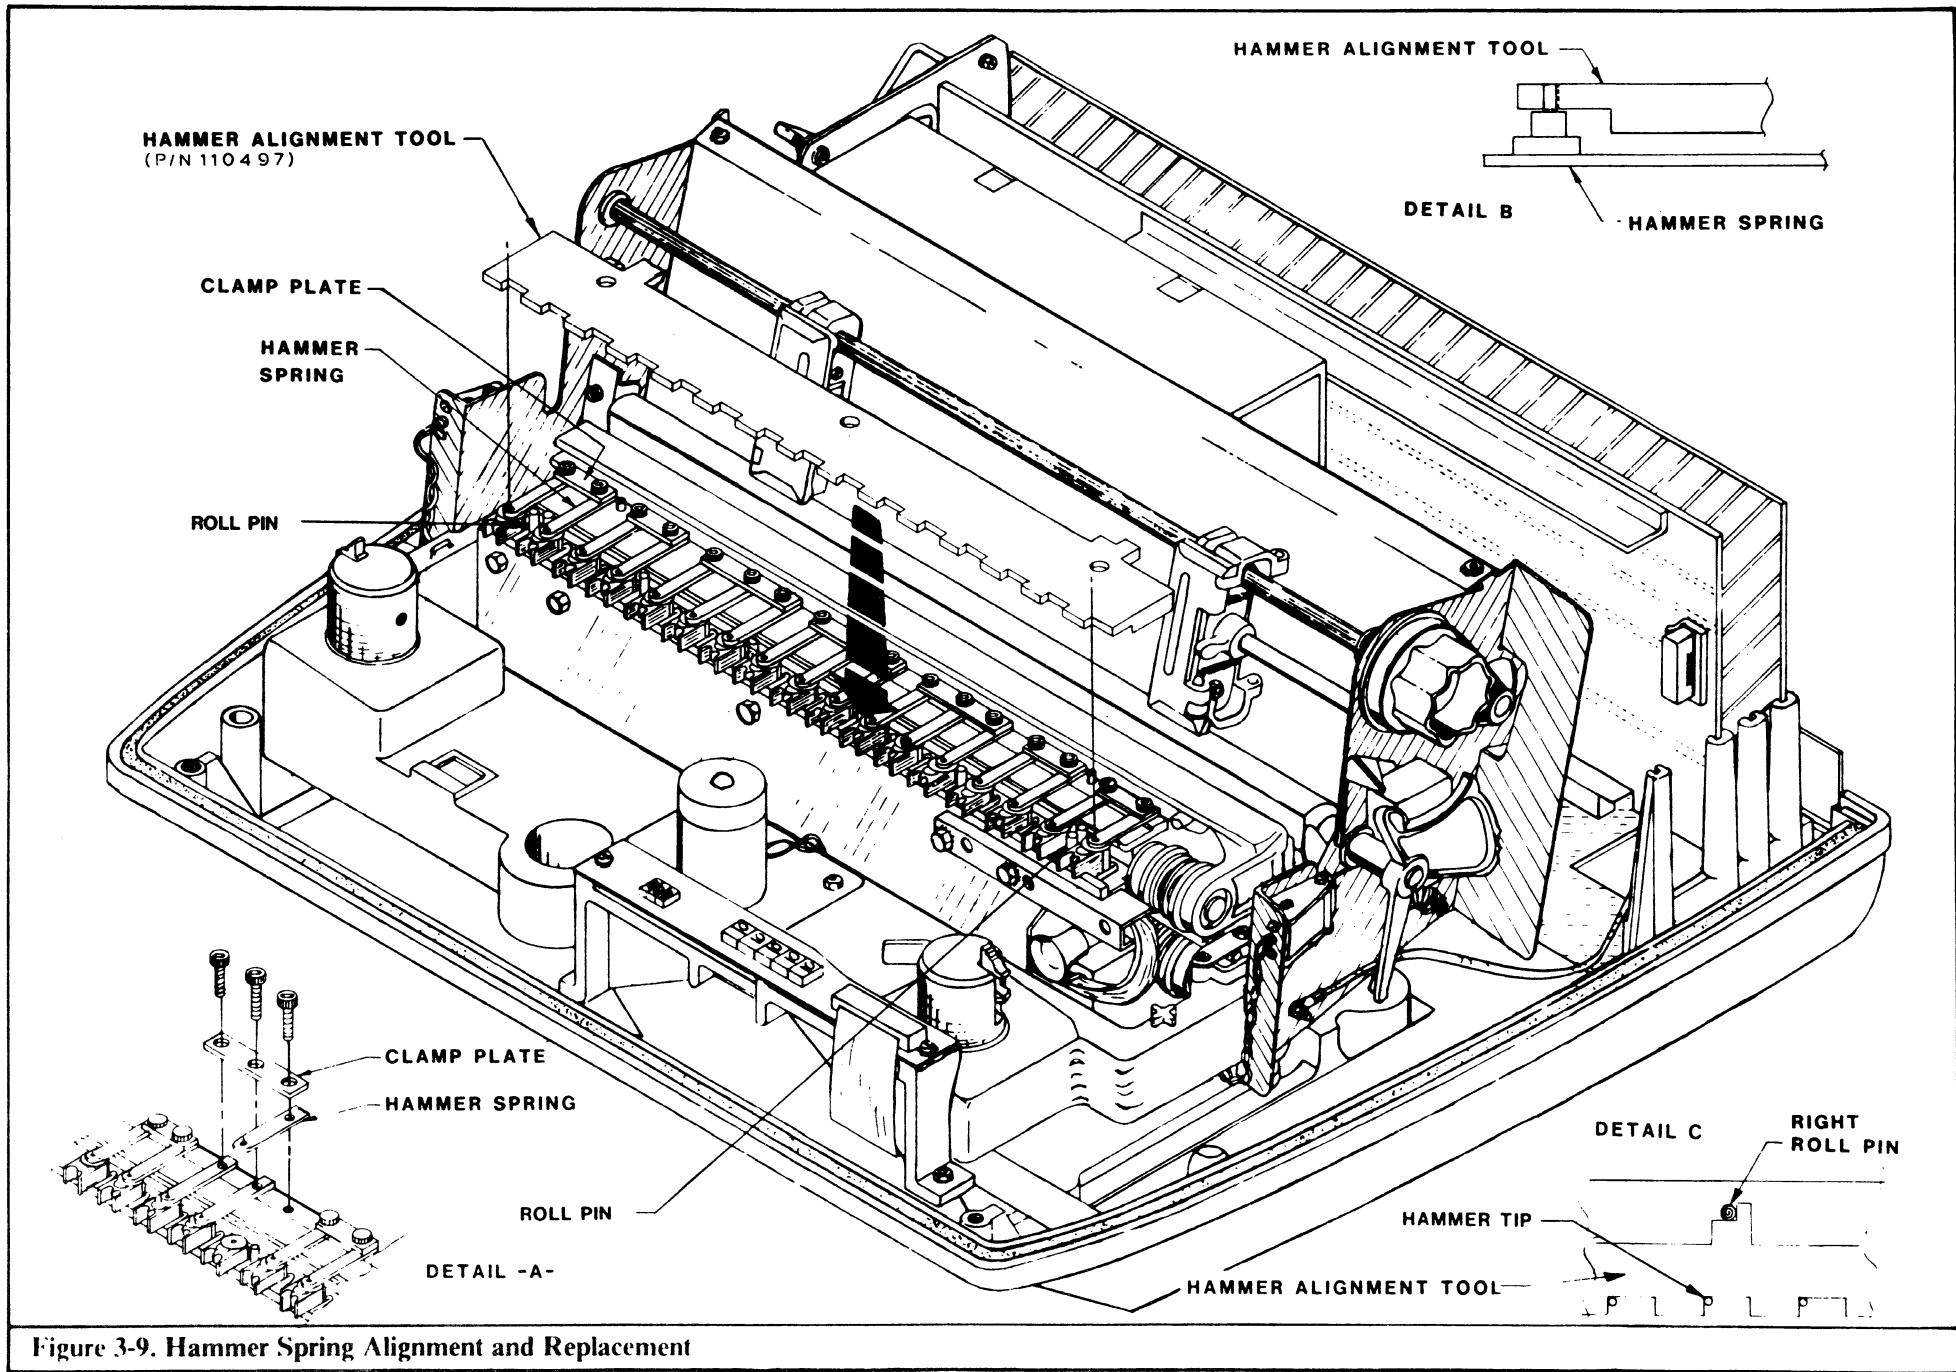

Figure 3-9. Hammer Spring Alignment and Replacement
To align a hammer tip, use the hammer tip alignment tool (Part No. 110497-001.) Refer to **Figure 3-9** and proceed as follows:
3. Position the hammer tip alignment tool against the the roll pins (**Figure 3-9, Detail C**) and the hammer tips (**Figure 3-9, Detail B**).
5. Adjust the position of the hammer so the tip touches the corner of the hammer tip slot in the alignment tool (**Figure 3-9, Detail B**).
To replace a hammer spring, refer to **Figure 3-9** (Detail A) and proceed as follows: